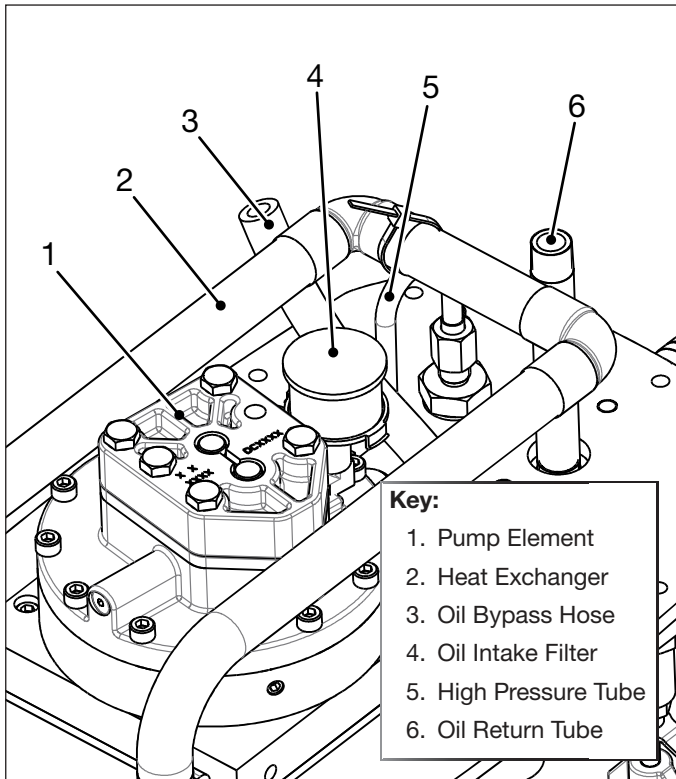

Figure 19: Inspection and Cleaning - Pump Element
**NOTICE** Refer to Figure 19 during steps 12 through 15.